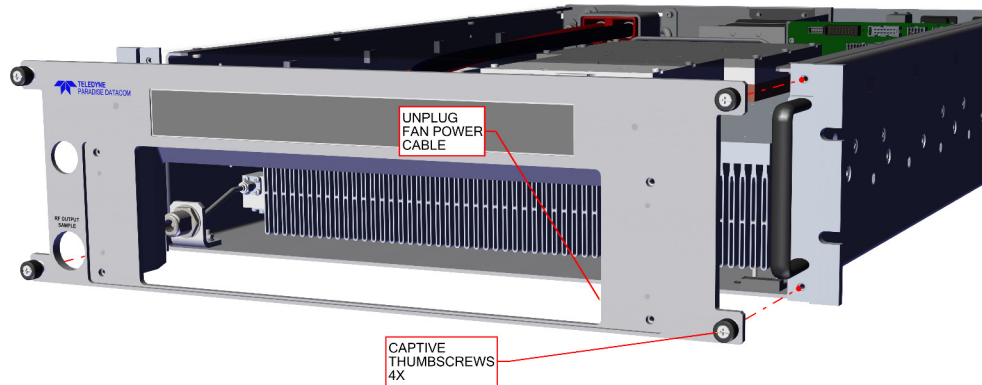

Figure 3: 3RU SSPA, Removable Front Panel
Four (4) captive thumb screws secure the front panel to the front of the chassis. Loosen the thumb screws by rotating them counter-clockwise with a Philips screwdriver. The fan power cable will need to be disconnected from the plenum before fully removing the front panel. See Figure 3.